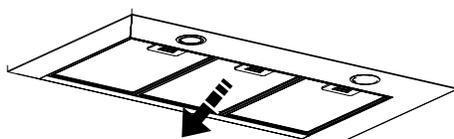

Fig. 1
Removing the filter cartridge (Fig. 1).
1. Remove the filter cartridge by disengaging it (Fig. 1).